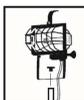

Abb.1
Mount the floodlight housing to the top of the telescoping pole by tighten the center knob clockwise until secure (Abb.1). Do not over tighten. Place the telescoping pole into hole (A) and (B). Mount the screw nut at the bottom of telescoping pole by tightening the stand and screw. Open the umbrella tighten the locking nut at